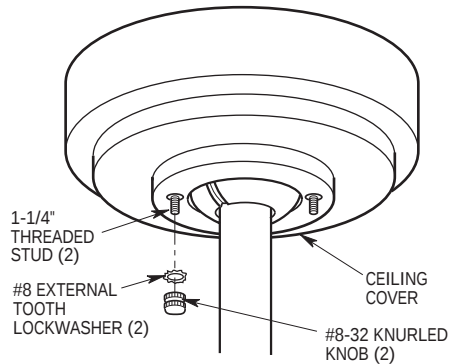

Figure 21
- 2. Lift the ceiling cover up to the threaded studs and turn until studs protrude through the holes in the ceiling cover (Figure 21).
- 3. Secure the ceiling cover in place by installing two lockwashers and two knurled knobs (supplied) (Figure 21). Tighten the knurled knobs securely until the ceiling cover fits snugly against the ceiling and the hole in the ceiling cover is clear of the downrod.